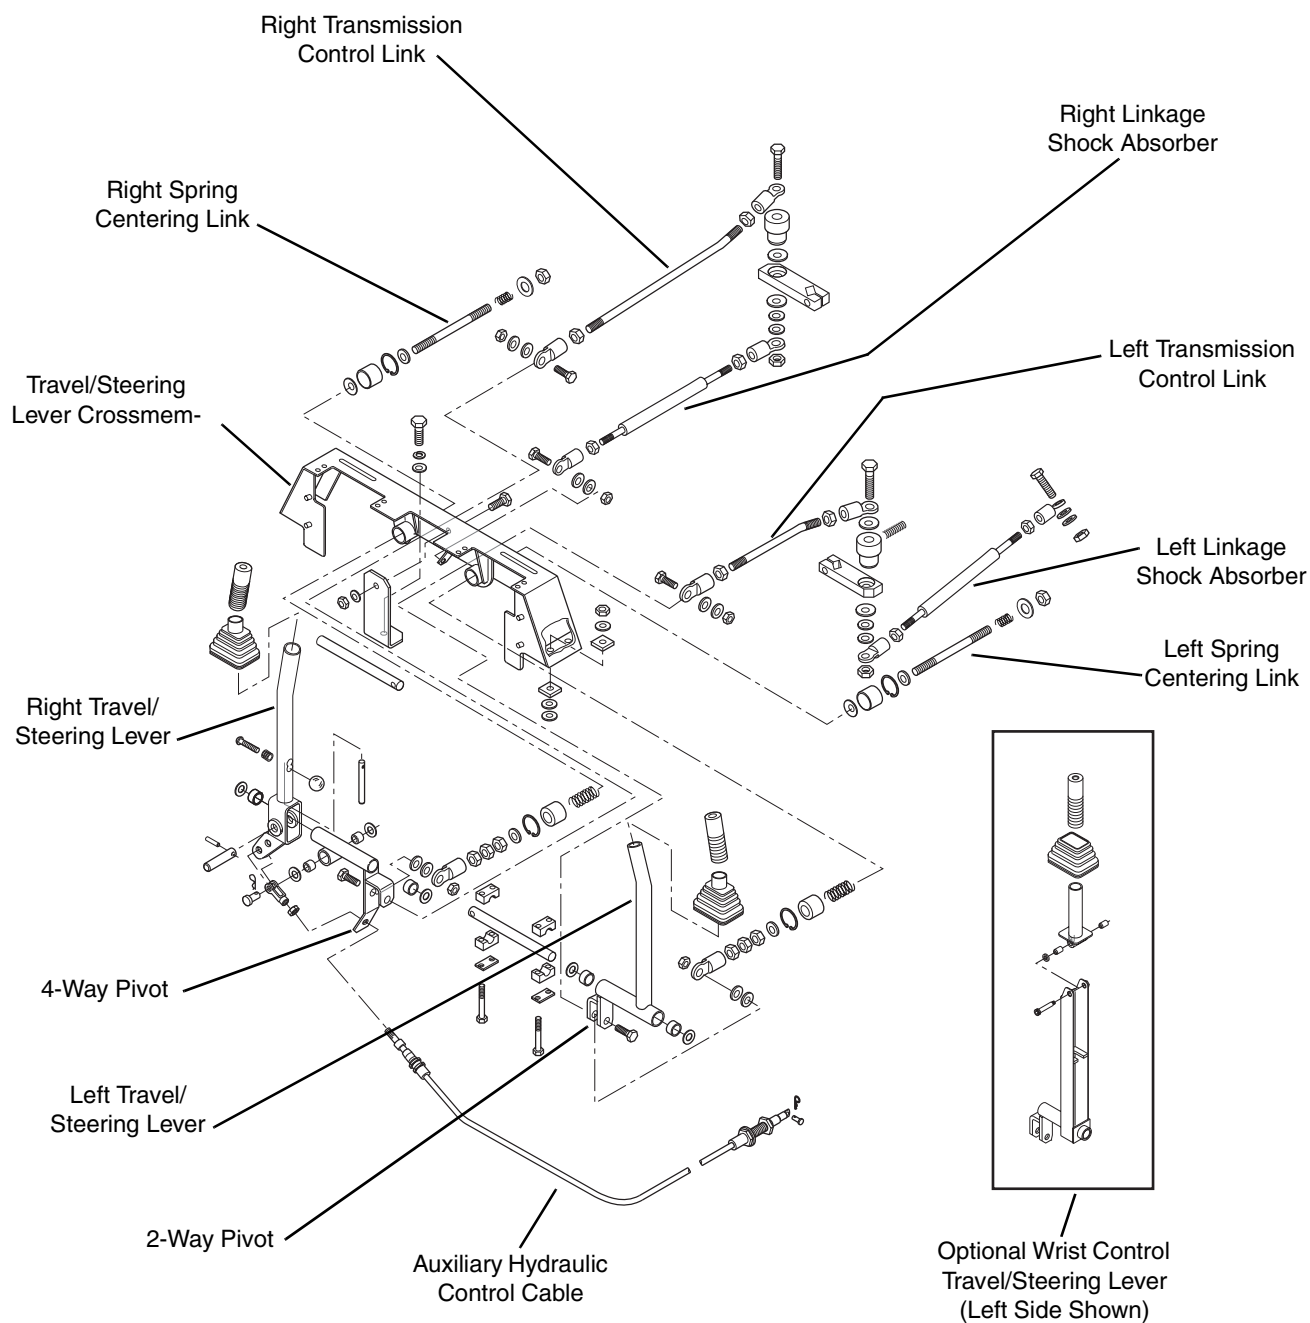

**Figure 7-3 Back-up Alarm Switch Connections
3. Disconnect wires from both back-up alarm switches (Fig. 7-3, 1 & 2), and move the switch wire harness (3) to the left side of the vehicle.